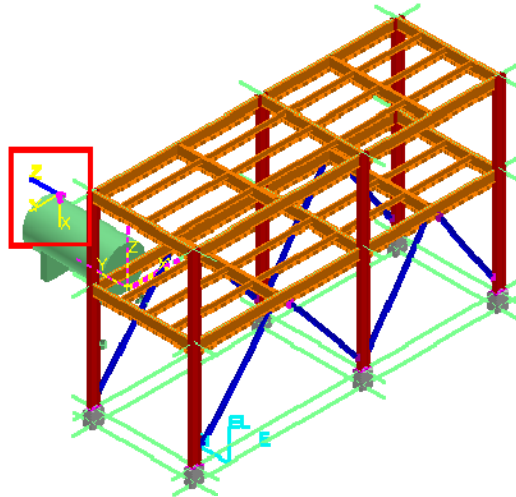

Figure 15: Flange Face on the Equipment
49. Rotate the nozzle using the arrow keys so that the **Flange** faces vertical, as shown in Figure 15 and click to place the nozzle.